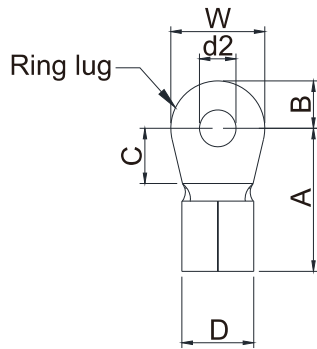
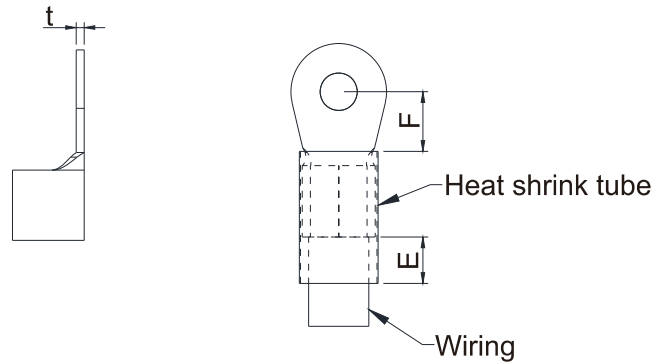

Figure 5-9
Figure 5-10
- Use the specified ring lug for main circuit terminal wiring. See figure 5-9 and figure 5-10 for ring lug specifications. For other types of wiring, use the wires that comply with the local regulations.
- After crimping the wire to the ring lug (must be UL approved), UL and CSA approved recognized component (YDPU2), install heat shrink tube rated at a minimum of 600V_{AC} insulation over the live part. Refer to figure 5-10 below.